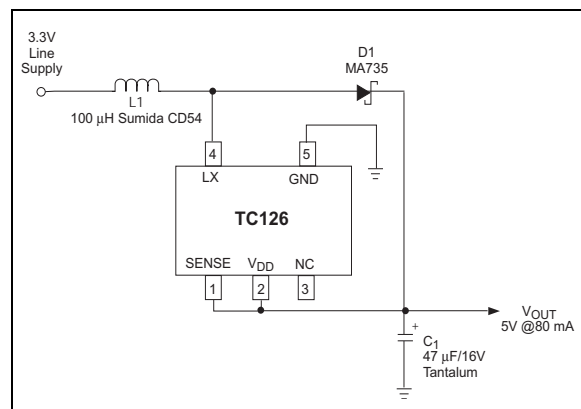

FIGURE 3-2: Typical TC126 Circuit
**3:** VDD input tied to SENSE input for TC126, as shown in Figure 3-2.
The TC126 (Figure 3-2) is recommended for all applications not requiring Shutdown mode. It has separate  $V_{DD}$  and SENSE inputs, allowing it to be powered from any source of 2.2V to 10V in the system. The  $V_{DD}$  input of the TC126 may be connected to the  $V_{IN}$ ,  $V_{OUT}$ , or an external DC voltage. Lower values of  $V_{DD}$  result in lower supply current, but lower efficiency due to higher switch ON resistance. Higher  $V_{DD}$  values increase supply current, but drive the internal switching transistor harder (lowering  $R_{DS(ON)}$ ), thereby increasing efficiency.